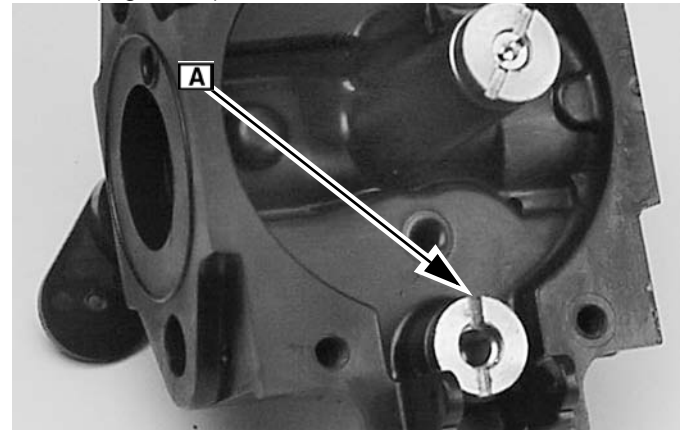

Fig. 45
10. Remove the brass inlet seat **A** and discard (Figure 45).